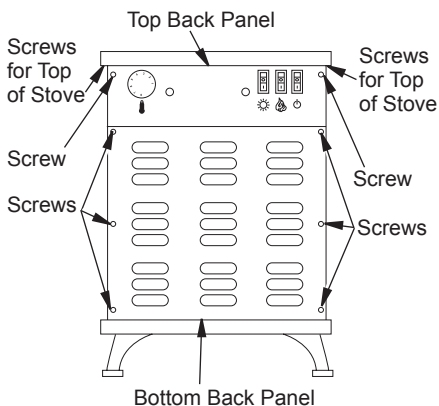

Figure 4 - Screw Locations
The heater/blower assembly is located behind the top panel on back of stove (see Figure 4). The top of stove, top back panel and bottom back panel must be removed to access heater/blower assembly.
1. Remove 4 screws from top of heater located under top side edges (see Figure 4).